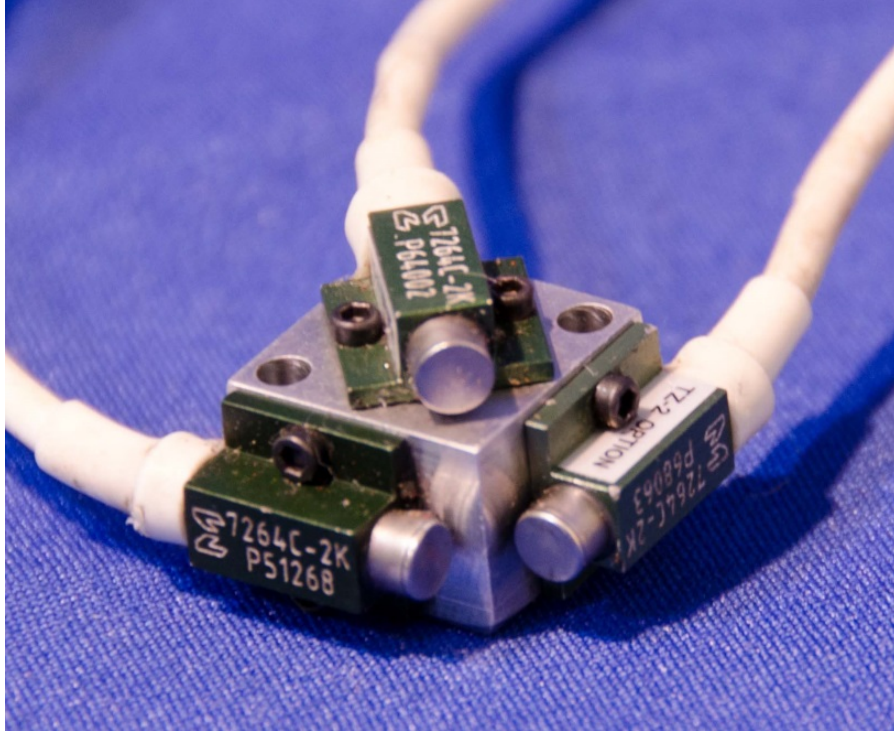

Figure 12-56. Mount accelerometers to Tri-Pack block
- 12.2.2.38 Mount three Uniaxial Piezoresistive Accelerometers (SA572-S4) on the Tri-Pack Block (SA572-S80M) using six M1.4 x 0.3 x 3 SHCS (Figure 12-56).